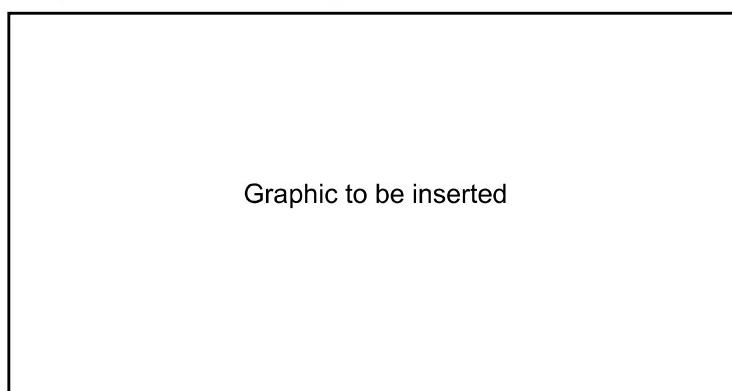

Figure 1: Expected Directional Dependency
- f. **Directional Dependency at 60 keV ( $^{241}\text{Am}$  or 65 keV ISO X-ray Quality).** Expose the instrument to  $^{241}\text{Am}$  or 65 keV ISO X-ray Quality radiation field at a dose rate of  $25\mu\text{Sv.h}^{-1}$  the expected polar responses are shown in Figure 1.